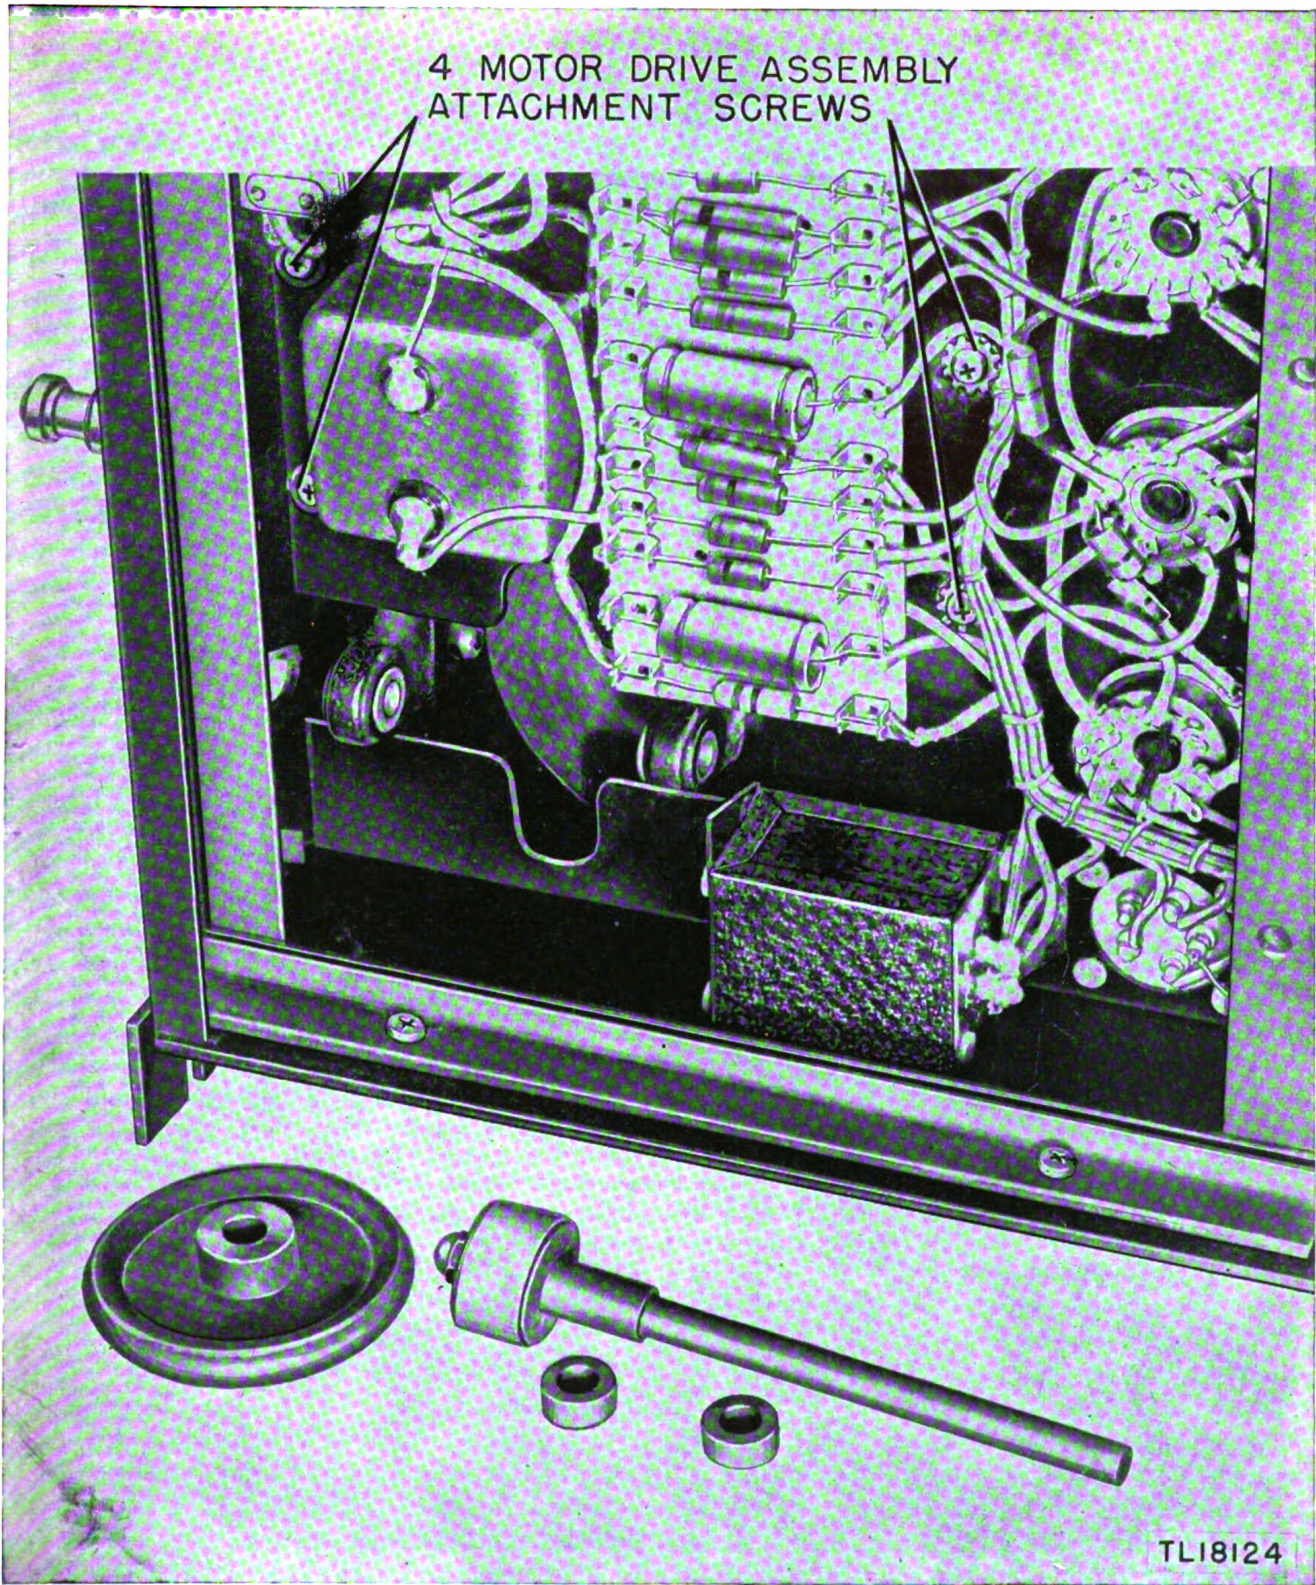

Figure 7. Motor drive assembly attachment screws.
a. INITIAL PROCEDURE. (1) Remove chassis from cabinet by removing the three recessed head screws at each end of the panel and the three screws and nuts on the bottom rear of chassis. Slide chassis from cabinet.
(2) Turn chassis upside down and remove four small recessed head screws holding bottom cover to chassis.
(3) Remove two screws at rear of tape drawer and slide drawer from chassis.
(4) Remove two screws on tape drawer cover frame and slide cover to the left until it can be taken out of chassis.
b. MOTOR DRIVE ASSEMBLY REMOVAL PROCEDURE. (1) With chassis bottom side up, use Allen wrench (0.078" hex. head) to loosen setscrews in the two tape drive shaft collars (87) and setscrews in driven wheel hub (84) as shown in figure 35. Pull tape drive shaft from assembly as shown in figure 7.
(2) Loosen setscrew holding tape speed control knob (91) to shaft. Remove knob.
(3) Unscrew the four recessed head screws (fig. 7) holding motor drive assembly to chassis.
(4) With drive assembly in one hand, unscrew two screws that hold electrical terminals to motor. Complete drive assembly can now be removed from chassis.
a. PRELIMINARY CLEANING OF SETS EXPOSED TO SAND, SILT, OR SALT WATER. (1) If equipment has been submerged or subjected to salt spray, it is important to remove all traces of sand or salt from the set. Silt or beach sand in the equipment often will deposit small crystals of salt between tube prongs and socket pins and in small crevices that will short electrical circuits.